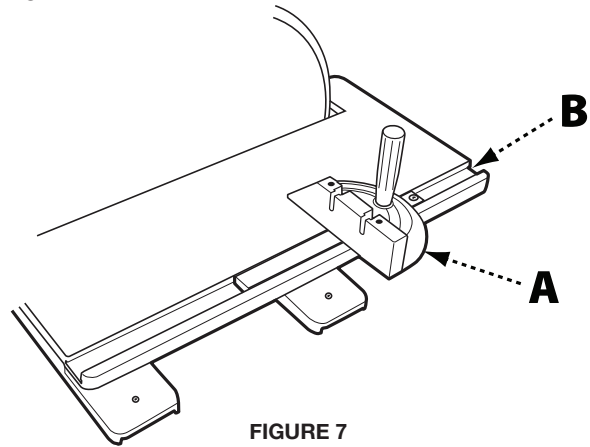

FIGURE 7
The majority of work performed on the DELTA® 12" Disc Sander is usually accomplished using the table as a support. For accurate sanding of angled and end-grain surfaces, as shown in Figure 7, your disc sander comes with an adjustable miter gauge (A) and 3/8" x 3/4" t-slot (B) machined into the table. To use the provided miter gauge for angled or end-grain sanding, do the following:
- Loosen the miter adjustment handle (C) by rotating it to the left and adjust the miter gauge to the desired sanding angle. Tighten the miter adjustment handle.